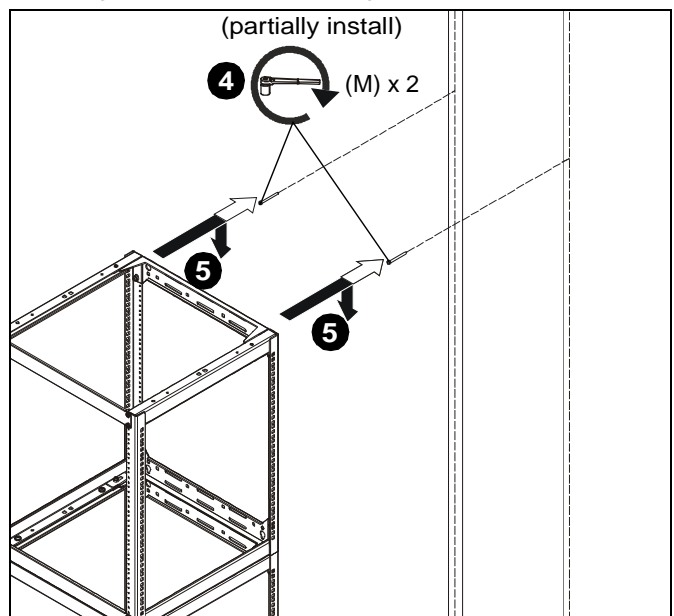

Figure 19
- Partially install two 5/16" x 3 1/2" lag bolts (M) into upper holes. (See Figure 19)
- Hang rack onto bolts. (See Figure 19)